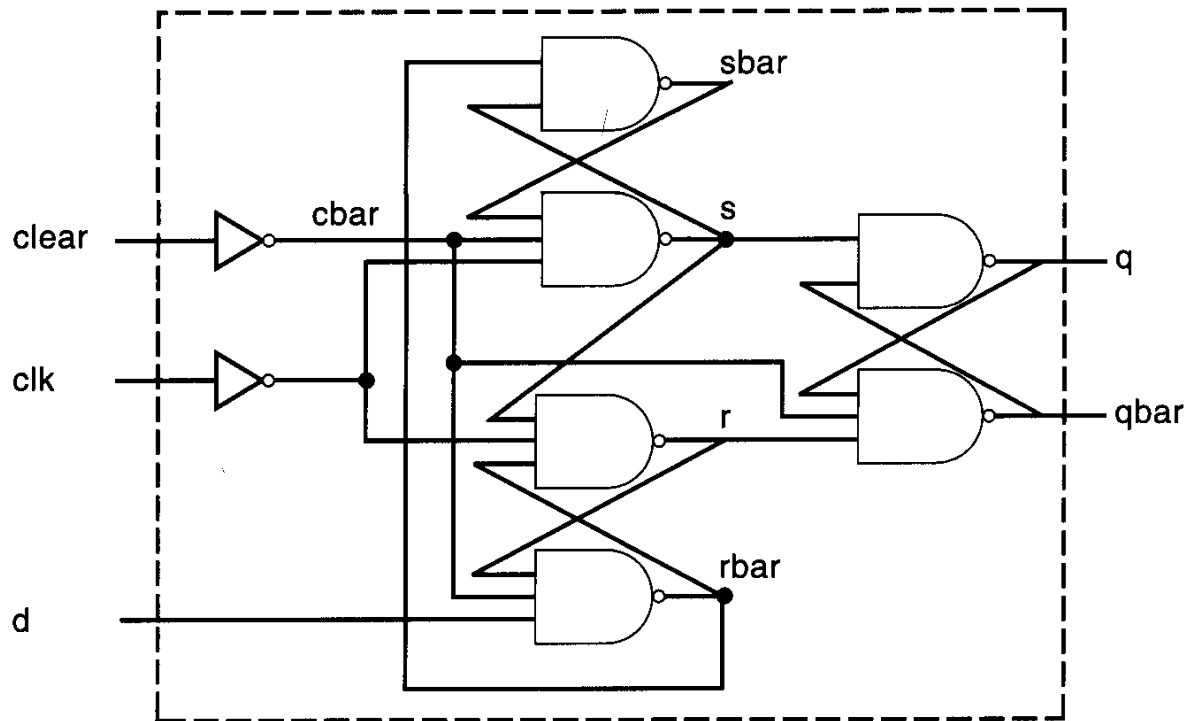

Fig.3.19: Negative Edge-Triggered D-flipflop with Clear
- Fig.3.19 shows the D-flipflop constructed from logic gates.